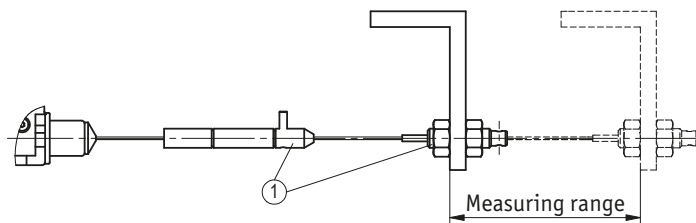
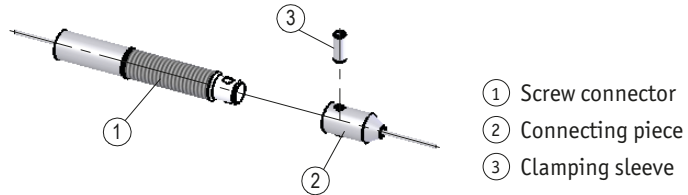

Fig. 16: Measuring range of wire extension
Fig. 17: Wire extension
8.1 Wire extension (Fig. 16, Fig. 17)
A wire extension does not extend the measuring range (see Fig. 16).
Mounting (Fig. 17)